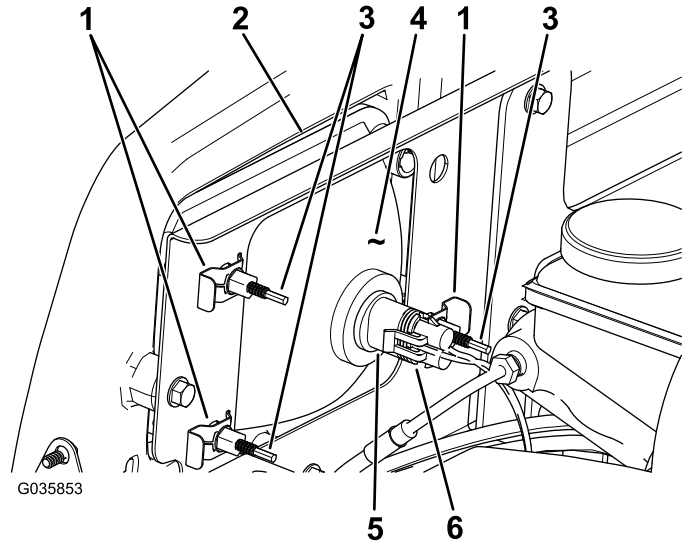

Figure 50
- Disconnect the electrical connector for the harness from the connector of the lamp assembly (Figure 50).
- Remove the speed clips that secure the headlight to the headlight bracket (Figure 50).
- Remove the headlight assembly by moving it forward through the opening in the front bumper (Figure 50).
- Install the new headlight through the opening in the bumper (Figure 50).
- Connect the electrical connector for the harness to the connector of the lamp assembly (Figure 50).
2. At the back of the headlight assembly, rotate adjustment screws (Figure 50) to pivot the headlight assembly and align the position of the cast beam.